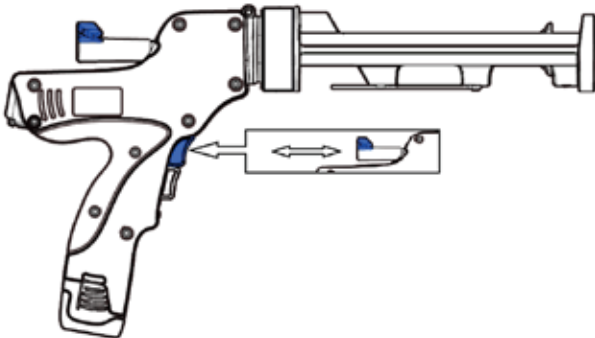

Figure 3
2. Insert cartridge – Hold the Clutch Trigger and pull back on the Rack Handle all the way see figure 3. Ensure the correct nozzle is screwed onto the chemical cartridge prior to insertion. Insert the chemical cartridge from the bottom first. Then hold the Clutch Trigger and using the Rack Handle push the piston forward into the cartridge manually.